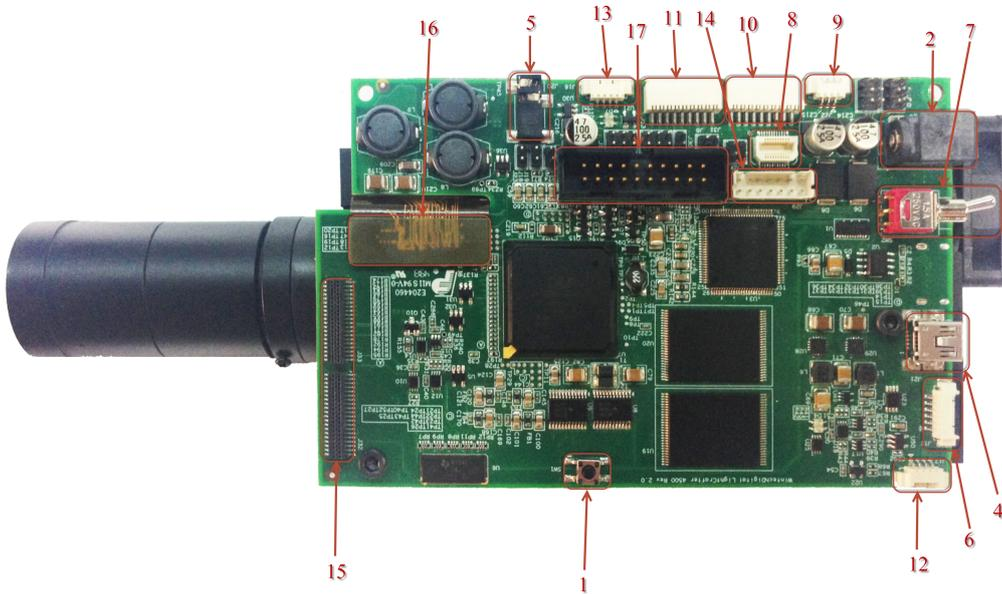
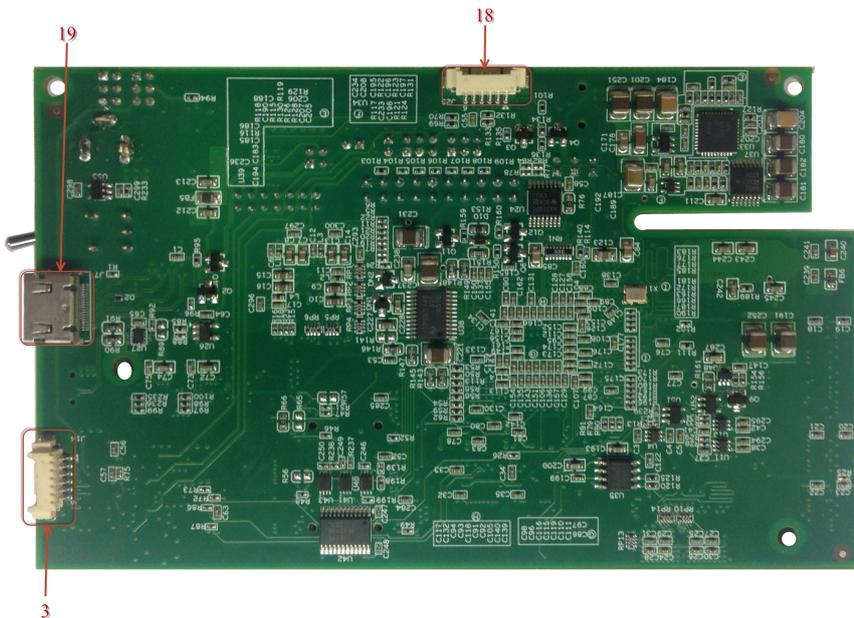

Figure 1-7. PRO4500 Connectors (Top View)
Figure 1-8. PRO4500 Connectors (Bottom View)
Figure 1-7 and Figure 1-8 depict the switches and connectors with their respective locations. The following list corresponds to the callouts on these figures. The figure does not include cables, or a power supply.
1. Connect a 12-V DC power supply to the power supply connector (connector 2 in Figure 1-8).
3. To display video, connect a DVI source to the mini-HDMI connector (connector 20 in Figure 1-8).
5. After installing the software on the computer, connect the PC to the PRO4500 using a USB to mini-USB cable (connector 4 in Figure 1-8). The first time the cable is connected on a PC, ThePRO4500 emulates a USB composite device with human-interface device (HID) class. No drivers are required because these drivers are natively handled by all operating systems.